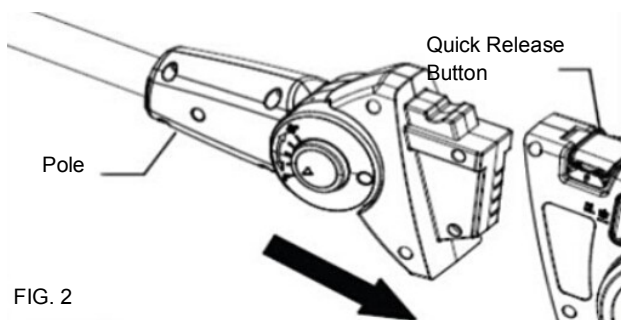

FIG. 2
2. Insert the telescopic pole into the chain saw cutting head. Press down the quick release button. Make sure the release button snaps firmly to lock the parts securely. (Fig. 2)